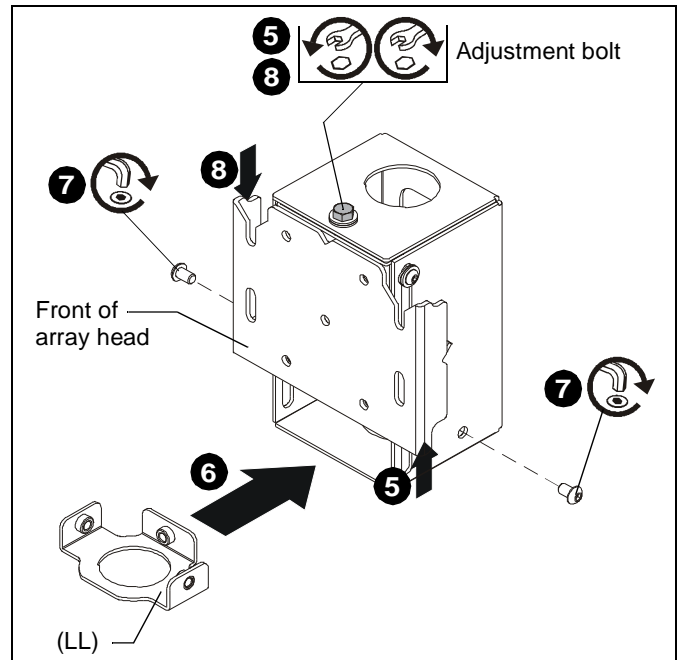

Figure 2
- Turn array head upright. (See Figure 2)
- Turn adjustment bolt on top of array head to slide plate up and enlarge opening on front of array head. (See Figure 2)
- Insert lower set screw bracket (LL) into array head (FF) with three tabs towards sides and back. (See Figure 2)
- Fasten bracket (LL) into place in bottom of array head using buttonhead screws (removed in Step 2) through sides of array head and into side tabs of bracket (HH). (See Figure 2)
- Slide plate (raised in Step 5) back into position by turning adjustment bolt on top of array head. (See Figure 2)
- Repeat Steps 1 through 8 for remaining array head (FF).